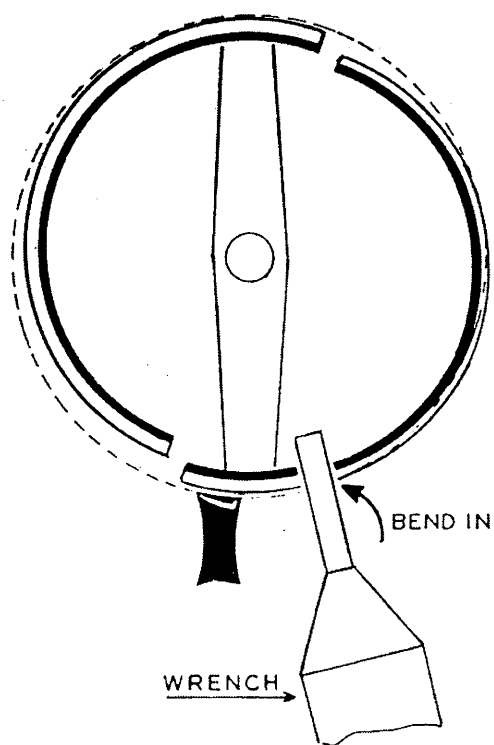

Fig. 16-20
3. Place wrench over rim and bend in direction of arrow, being certain that you are applying pressure with the left hand, figure 16-20. Hold wrench lightly and be certain not to disturb the flat.